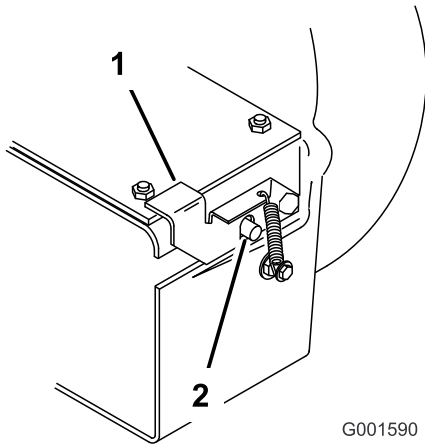

Figure 9
4. With the belt installed, swing the blower toward the mower until the blower latch locks over the pin at the back of the mower (Figure 9).